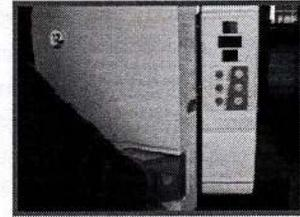

Fig 5-4
5.2.5 After the instruments are loaded, you may close and lock the chamber door by turning the door knob clockwise to its locking position. The “READY” indication light goes on. (Fig 5-4)